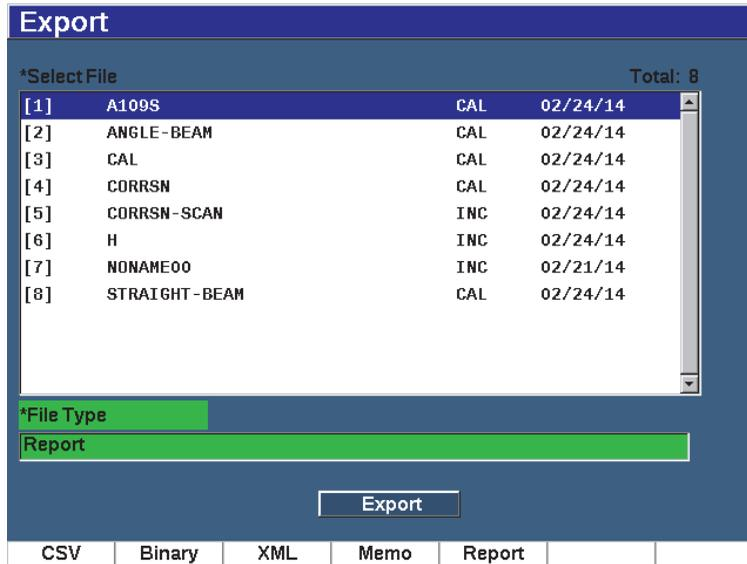

Figure 10-19 Export setup page
1. Press **Export**, (P2 key) to display the **Export** setup page (see Figure 10-19 on page 211).